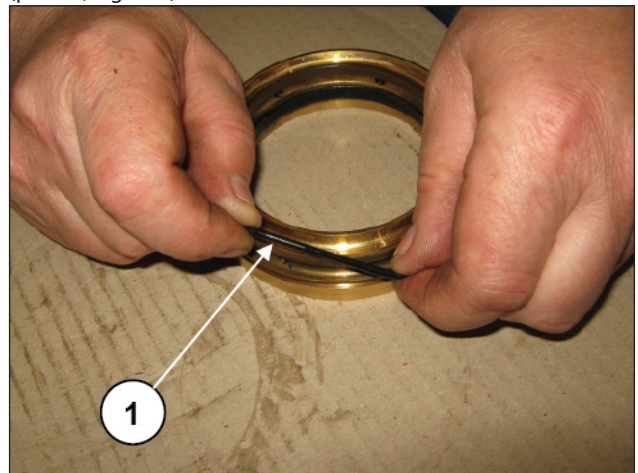
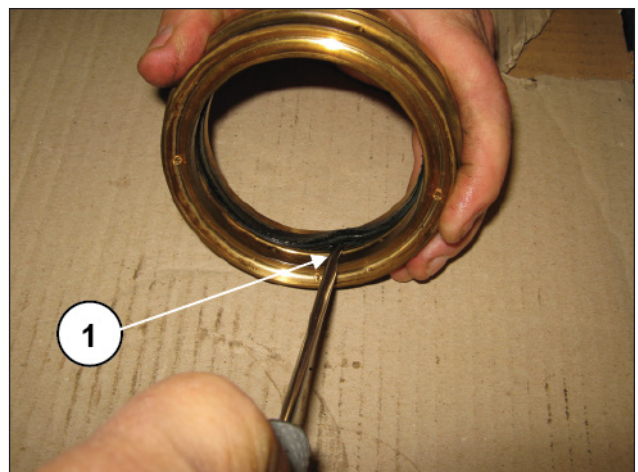

Fig. 214
Fig. 215
Remove the O-ring (pos. ①, Fig. 214) and the low pressure seal (pos. ①, Fig. 215) with the aid of a screwdriver.